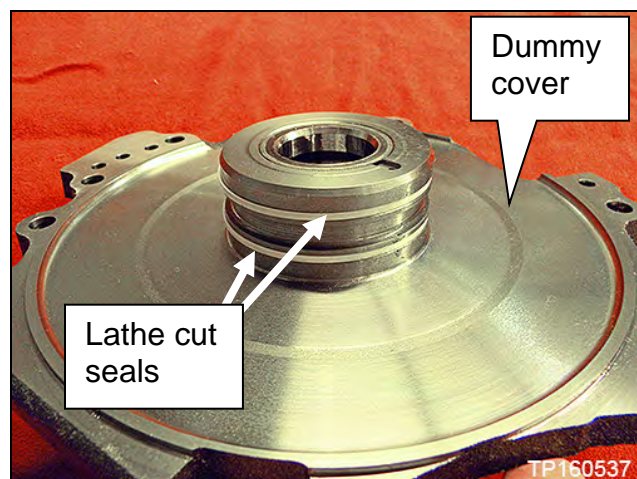

Figure 20C
- Do **NOT** remove the lathe cut seals (Figure 20C) from the dummy cover. These seals will be reused.